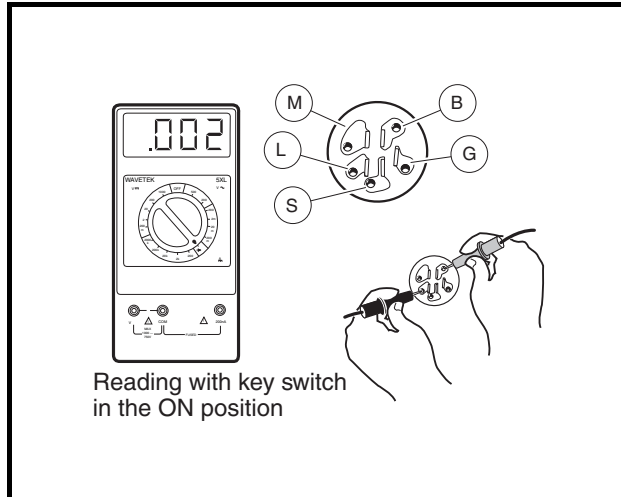
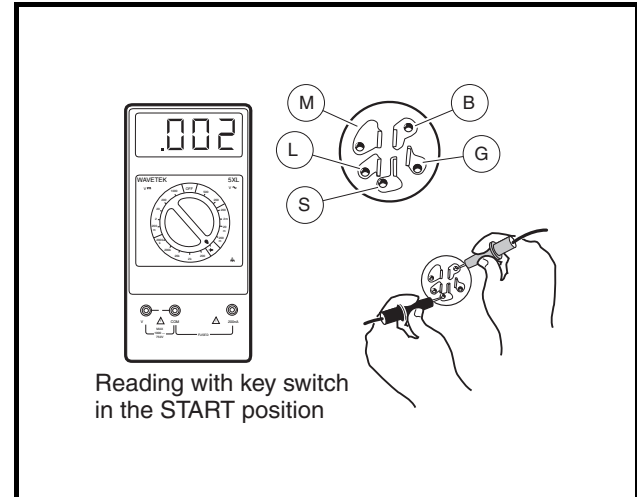

Figure 11-11 Key Switch Test – Accessory Terminal
Figure 11-12 Key Switch Test – Starter Circuit
5. Insert the key and turn the key to ON. Place the red (+) probe of the multimeter on the (B) terminal and the black (-) probe on the (L) terminal of the key switch. The reading should be continuity. If the reading is incorrect, replace the key switch (**Figure 11-11, Page 11-16**). **See Key Switch Removal, Section 12, Page 12-24.**
6. With the key still in the ON position, place the red (+) probe of the multimeter on the (B) terminal and the black (-) probe on the (S) terminal of the key switch. The reading should show no continuity. If the reading is incorrect, replace the key switch. **See Key Switch Removal, Section 12, Page 12-24.** If the reading is correct, leave the probes connected and proceed to the next step.
7. Insert the key and hold the key in the START position. The reading should be continuity. If the reading is incorrect, replace the key switch (**Figure 11-12, Page 11-16**). With the red (+) probe of the multimeter on the (B) terminal and the black (-) probe on the (L) terminal of the key switch, the reading should be continuity. If either reading is incorrect, replace the key switch. **See Key Switch Removal, Section 12, Page 12-24.**
5. Insert the key and turn the switch to the ON position. With the multimeter set to 200 ohms, place the red (+) probe of the multimeter on the (B) terminal and the black (–) probe on the (L) terminal of the key switch (**Figure 11-11, Page 11-16**). The reading should be continuity. If the reading is incorrect, replace the key switch. See **Key Switch Removal, Section 12, Page 12-24**.